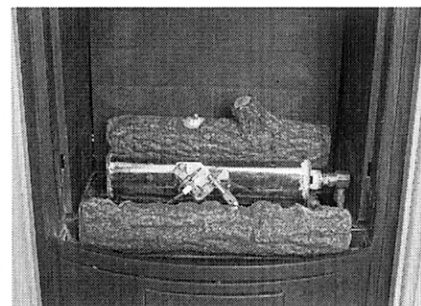

Figure 8
- Insert the pinhole on the upper part of log 3 into the pin on the left side of log 1. Place the lower part on the flat roof at the left side of log 2 (Figure 8).